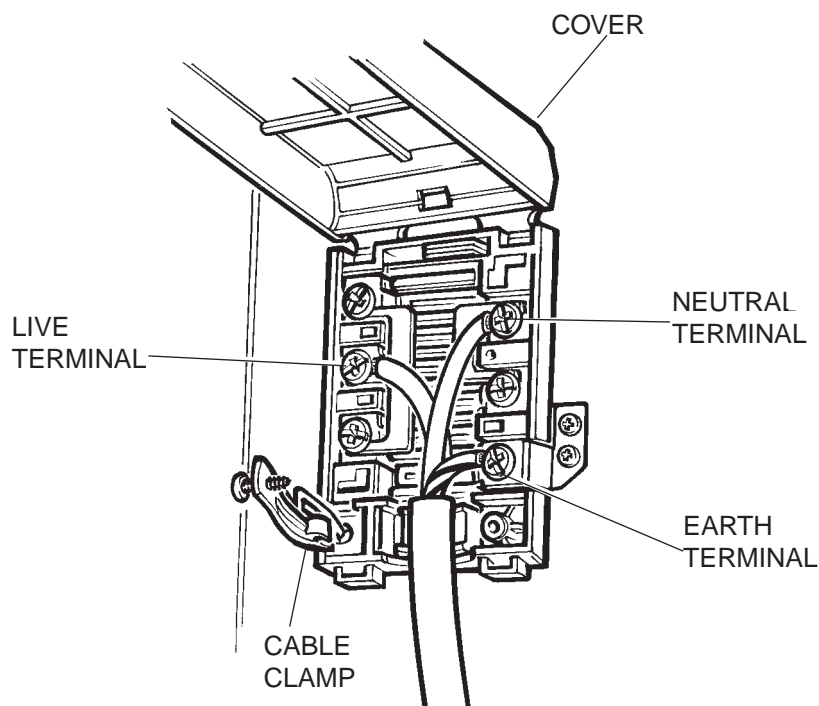

Figure 3 – Electrical connections
1. Lift up the cover (Figure 3).
2. Loosen the cable clamp (Figure 3).
3. Connect the mains supply cable to the terminal block on the cooker using the following colour code (Figure 3):